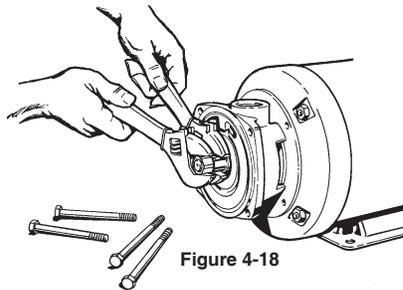

Figure 4-18
- n. Place a second crescent wrench over the nut and tighten in a clockwise direction until it is secured. Refer to Figure 4-18.